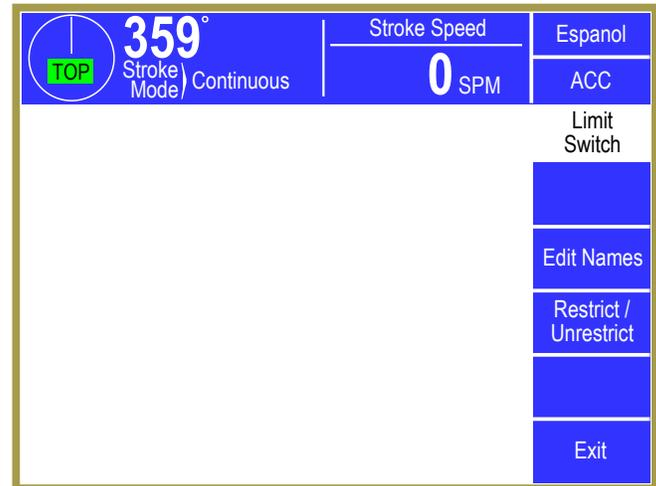

Figure 102: PLS Configuration Main Screen
- After the code is entered correctly, the screen of Figure 102 will be displayed.
Press the **Edit Names** softkey (shown in Figure 102) to display the screen of Figure 103. Use the **Previous Page** and **Next Page** softkeys to page through the entire list of 64 names. Touch inside the blue border of a name to change it.
Press the **Restrict / Unrestrict** softkey (shown in Figure 102) to display the screen of Figure 104. Use the **Previous Page** and **Next Page** softkeys, if displayed, to page through the channels.